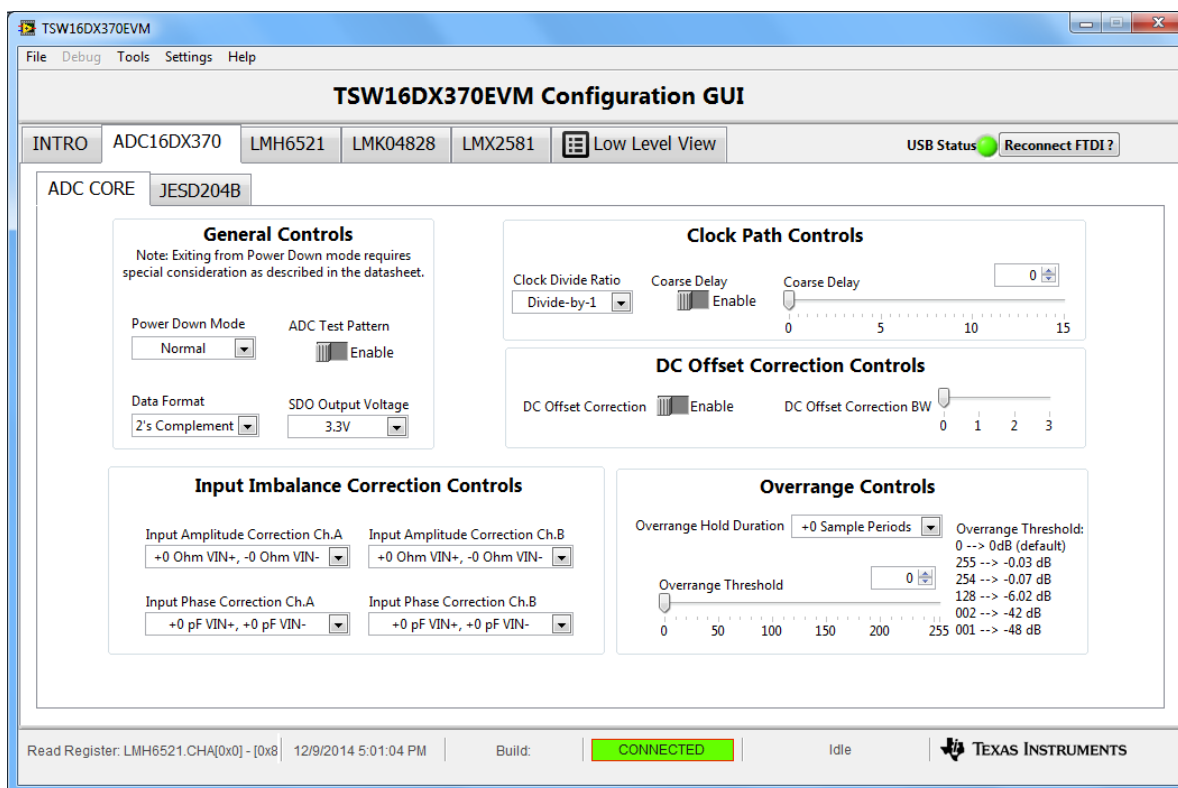

Figure 5. Configuration GUI ADC CORE Tab
Figure 4 and Figure 5 show the GUI open to the INTRO tab and ADC CORE tab, respectively. Tabs at the top of the panel organize the configuration into device and EVM features with user-friendly controls and a low-level tab for directly configuring the registers. The EVM has four (4) configurable devices, namely the ADC, LMH, LMX, and LMK. The Register Map for each device is provided in the respective device datasheet.